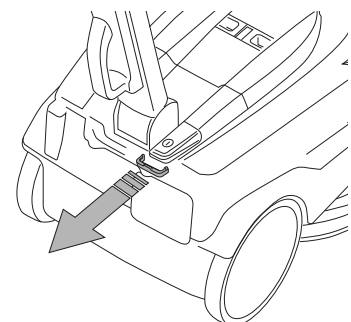

Fig.2C
- Remove the mechanical lock from the switch (Fig.2C)